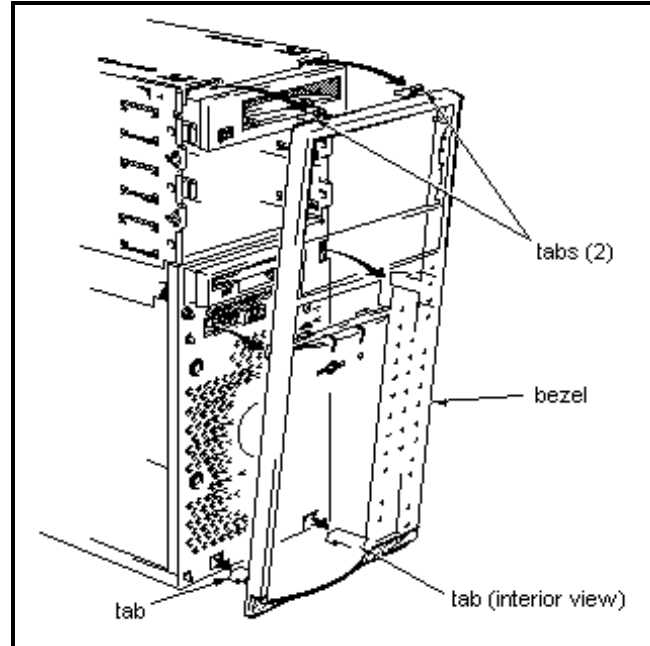

Figure 2
6. Remove the bezel from the front of the case by depressing the tabs and tilting the bezel down and away from the case (figure 2).